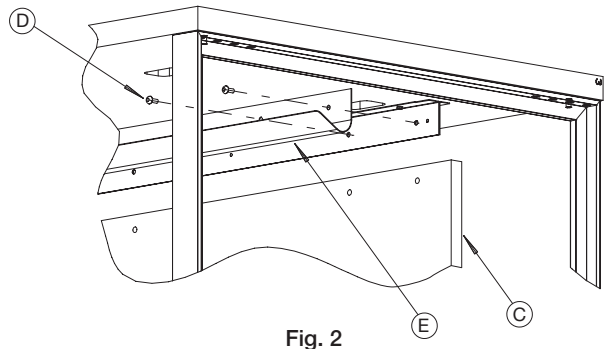

Fig. 2
2. Secure modesty (C) to the mounting bracket (A) using fastener (D). (Fig. 2)